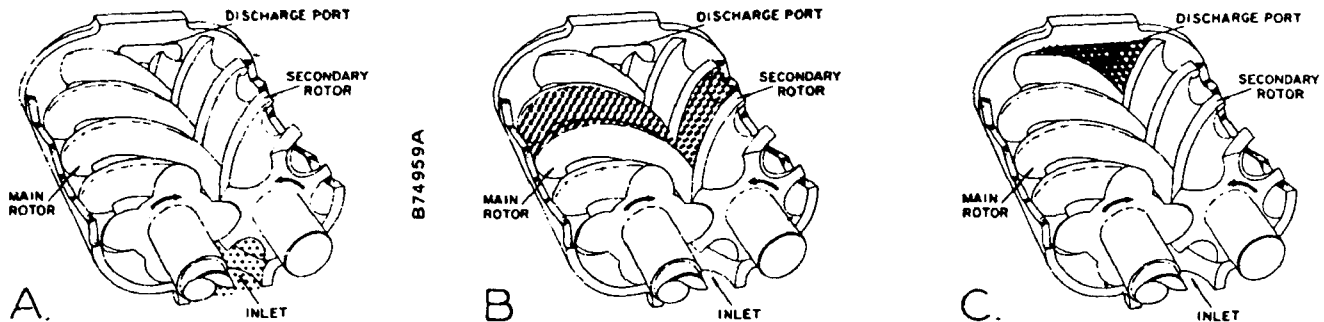

FIGURE 1-1 - COMPRESSION CYCLE
**COMPRESSION PRINCIPLE** (Figure 1-1) - Compression is accomplished by the main and secondary rotors synchronously meshing in a one-piece cylinder. The main rotor has four (4) helical lobes 90° apart. The secondary rotor has six (6) matching helical grooves 60° apart to allow meshing with main rotor lobes.
The air inlet port is located on top of the compressor cylinder near the drive shaft end. The discharge port is near the bottom at the opposite end of the compressor cylinder. Figure 1-1 is an inverted view to show inlet and discharge ports. **The compression cycle** begins as rotors unmesh at the inlet port and air is drawn into the cavity between the main rotor lobes and the secondary rotor grooves (A). When the rotors pass the inlet port cutoff, air is trapped in the interlobe cavity and flows axially with the meshing rotors (B). As meshing continues, more of the main rotor lobe enters the secondary rotor groove, normal volume is reduced and pressure increases. Water is injected into the cylinder to remove the heat of compression and seal internal clearances. Volume reduction and pressure increase continues until the air/water mixture trapped in the interlobe cavity by the rotors passes the discharge port and is released to the reservoir (C). Each rotor cavity follows the same "fill-compress-discharge" cycle in rapid succession to produce a discharge air flow that is continuous, smooth and shock-free.